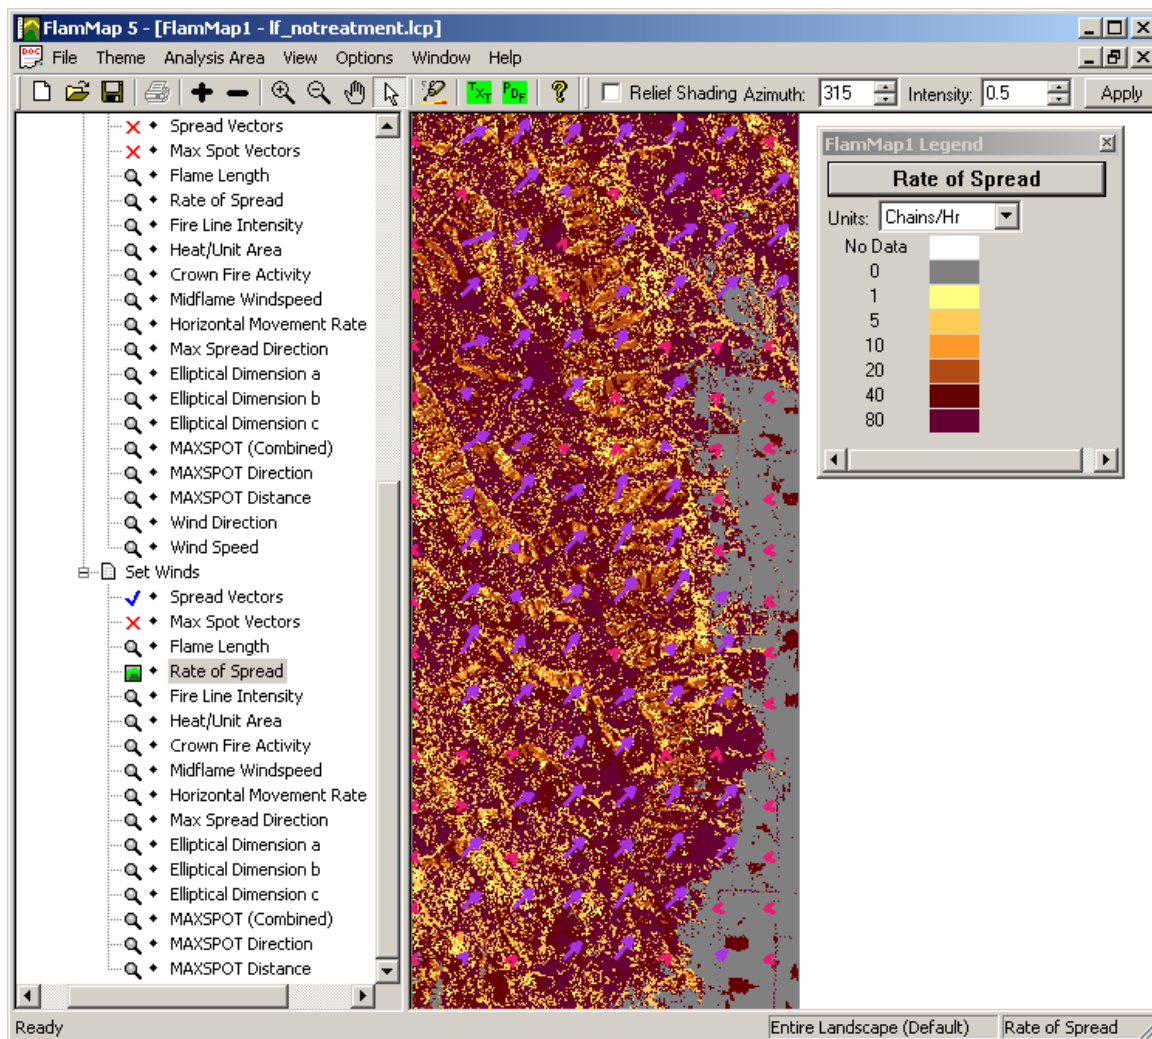

Figure 4-30—Rate of spread with wind vectors from a basic fire behavior run using set winds.
- 12) Under the Runs section, expand the Set Winds run in the tree pane (fig. 4-30). Display the Rate of Spread theme, and open the legend (double-click on the theme name). Turn off the Max Spot Vectors theme (double-click on the theme name).